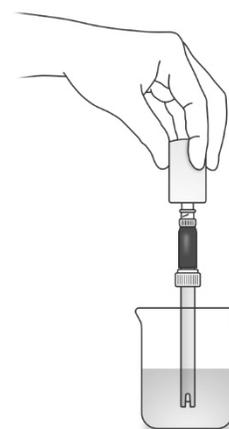

Figure 1: pH sensor position
5. Remove the storage bottle from the pH sensor and push the cap to the top of the probe as shown in Figure 1. Rinse the probe with distilled water and place it in the "water-lemon" beaker.
Note: Hold the sensor upright to keep the beaker from tipping over as shown in Figure 1. Make sure the glass bulb at the end of the probe is completely submerged but is not resting at the bottom of the beaker.